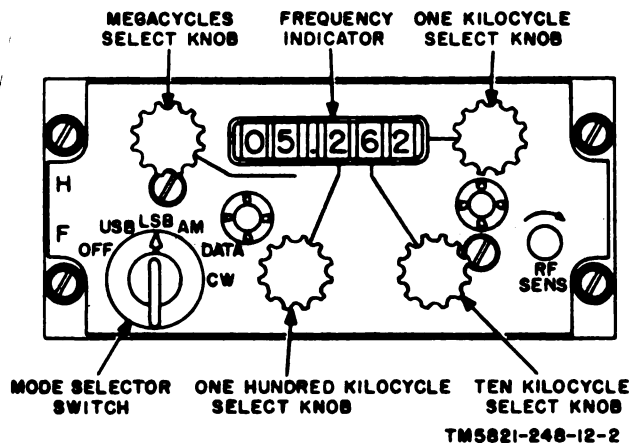

Figure 5. Operating controls.
14. Controls (fig. 5)
17. Operating Procedures (fig. 5)